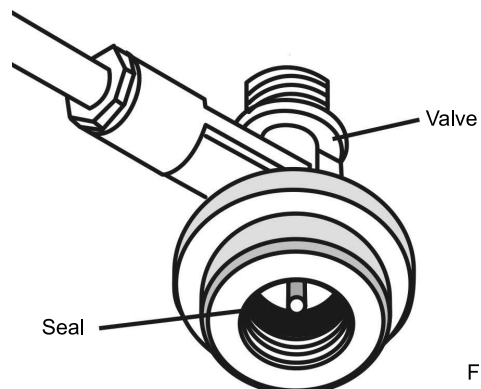

Fig. 1
- Check that the seal is in place and in good condition before connecting to the gas container (See Fig. 1).